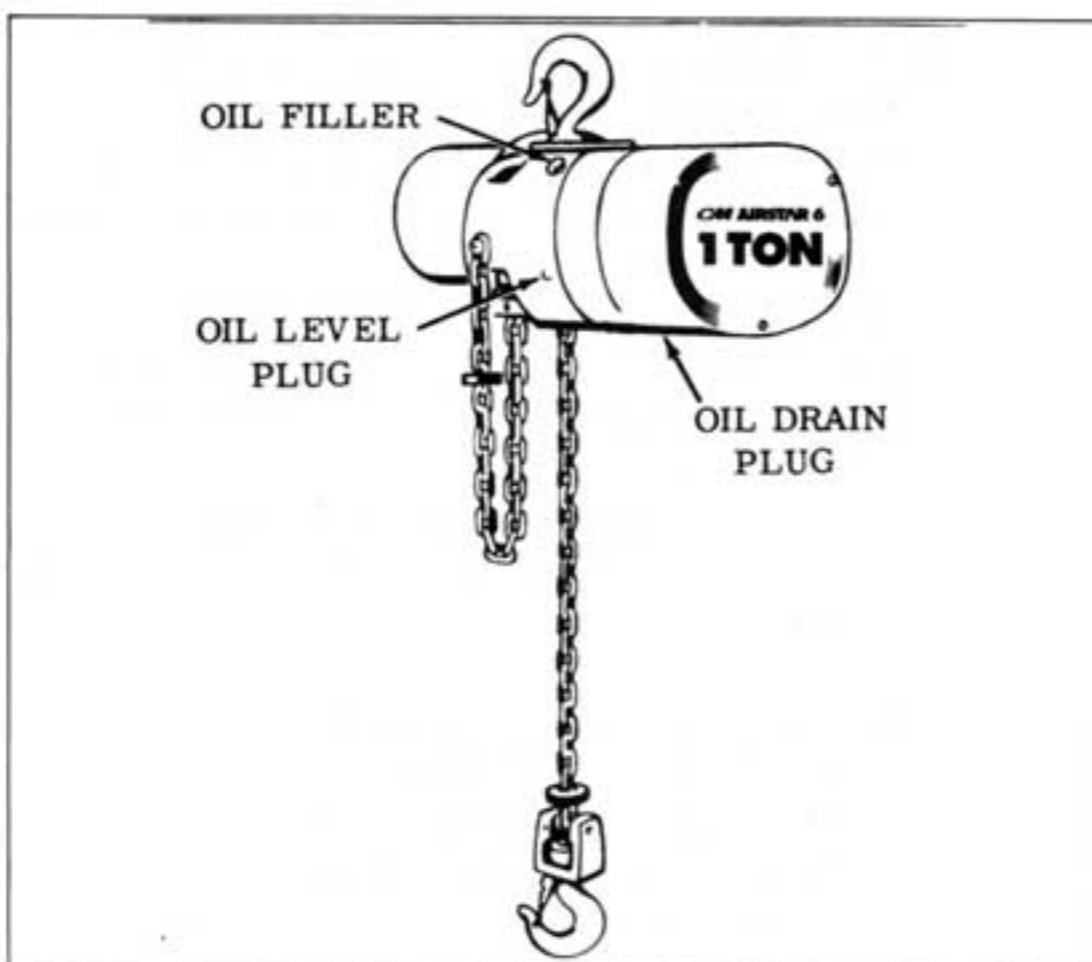

Figure 4-1. Location of Oil Filler and Plugs.
2-3. PRE-INSTALLATION CHECK. Check Oil Level. (Figure 4-1) The gearcase has been filled with oil, to the proper level at the factory. However, the oil level should be checked before hoist is operated.
4-4. CHANGE GEARCASE OIL (Figure 4-1).
- (1) Check to see that bolts securing motor to frame are tight. Also check for any visible damage to motor, supply head or muffler, such as a cracked or dented housing. Replace damaged parts.
- (2) Check hoist frame for signs of visible damage. If frame shows evidence of fracture, the hoist should be disassembled and inspected for further signs of damage from possible overloading. Replace damaged parts. Also check condition of limit stop.
e. Check Oil Level. Remove oil level plug (Figure 4-1). If oil level is not even with bottom of tapped hole, add Automatic Transmission Fluid, DEXRON® Type, to bring proper level.